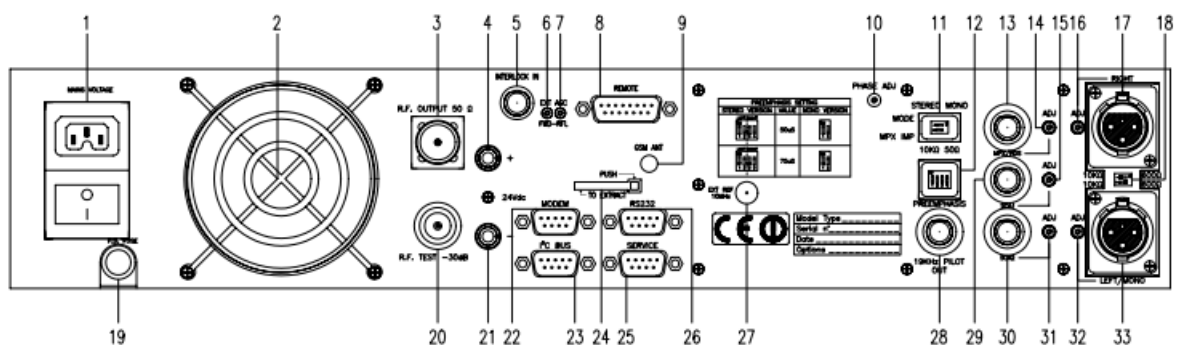

Figure 6.2
- Preemphasis (switch [6] Fig. 6.2):
- L and R (XLR type) input impedance (switch [16] Fig. 6.2):
Power Good is a control and alarm function of the delivered power. When the output power goes below the Power Good threshold value, the machine changes the status of a pin contained in the DB15 “Remote” connector located on the back panel (fig. 6.2 note [14]). The Power Good percentage value refers to the machine nominal power, i.e. 150W, and not to the direct delivered power. Therefore if it is set on 80%, it will correspond to 120W regardless of the set power.